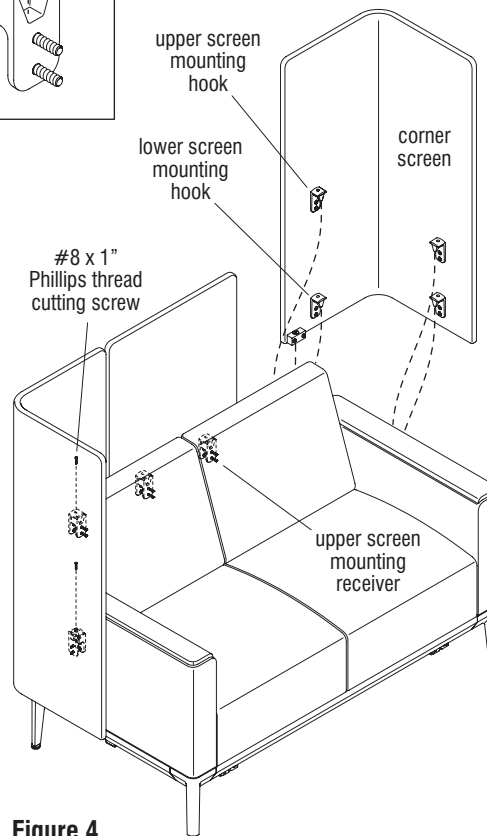

Figure 4
8. Once all screws have been removed from the affected screen's mounting hooks and receivers, with the assistance of a second person, lift up the screen to disengage the screen mounting hooks from the screen mounting receivers. Set the removed screen out of the way for the screen replacement process (Figure 4 & Detail E).